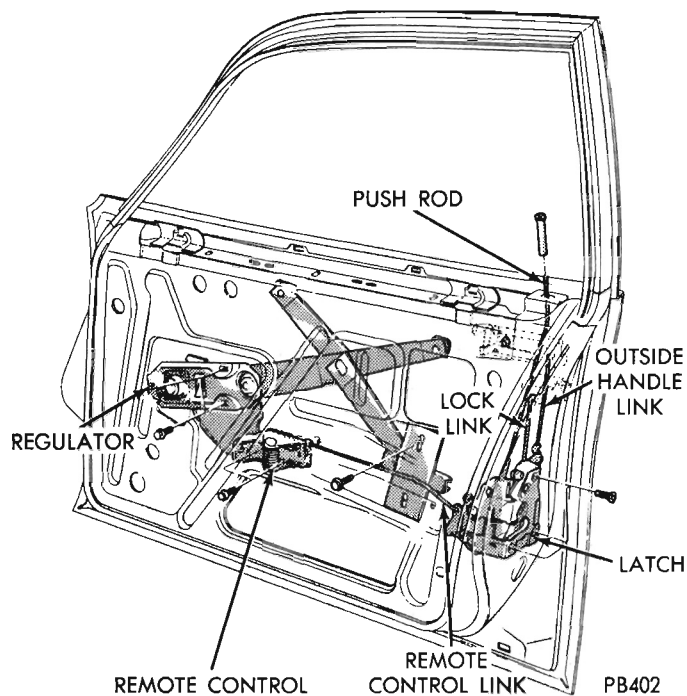

Fig. 20 - Front Door Remote Control
- (1) Disconnect handle to lock link (Figs. 20 and 21) from lock by pulling link outward at lock.
(2) Disconnect locking lever rod (front door only) from lock assembly (Fig. 20).
(3) Disconnect lock control rod from lock assembly (Fig. 20).
(4) Remove screws attaching lock assembly to door.
(5) Rotate lock assembly and disconnect remote control link when removing lock.
(6) Lubricate all moving points of lock assembly.